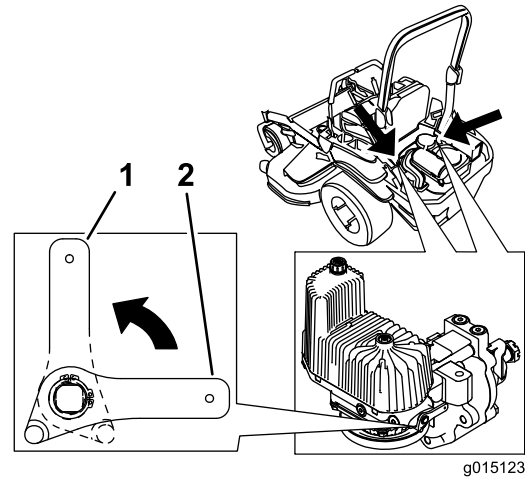

Figure 36
3. Rotate the release-valve levers vertically to push the machine (Figure 36).
5. Rotate the release valve levers horizontally to run the machine (Figure 36).